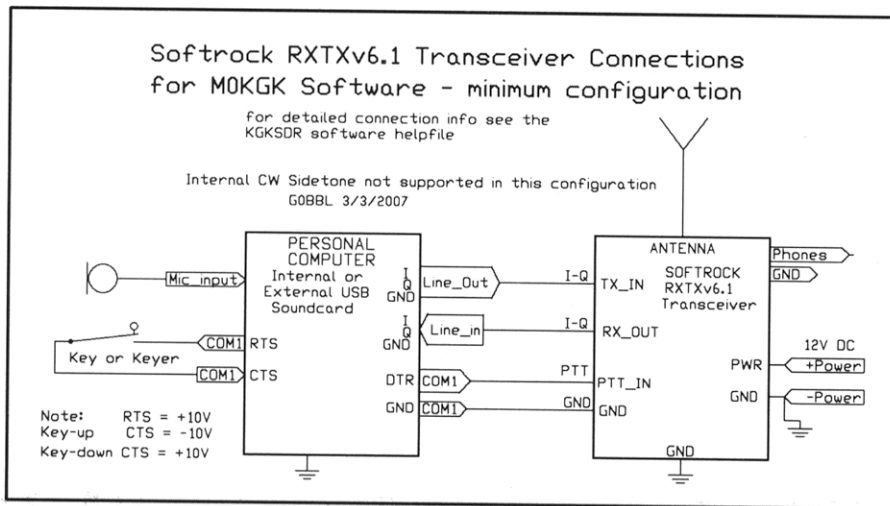

Fig 2 Basic Interconnections
Fig 2 shows the circuit to feed the active aerial via the coaxial cable. L2 prevents HF picked up by the 12 V line to be coupled to the receiver. Because of this danger a metal case should be used for the power feed unit. D1 is a protection against wrong polarity. For low-noise reception below 80 kHz the isolation transformer Tr1 may be necessary for low noise reception, when the cable braid is grounded not only outside the house, as demanded by PA0RDT, but also via a safety ground of the receiver in the shack. In this case an isolated BNC connector has to be used at the receiver output of the case. For VLF reception both
Computer and Software requirements: Whilst the Softrock 40 Receiver may be used on a modest 500 to 700 MHz Pentium Computer running the popular Rocky Software, the RXTX transceiver will need as a minimum a 1 GHz to 2GHz PC on Transmit. Another requirement that the PC Soundcard has Line-in, Line-out as well as a Microphone input socket. Currently two Software packages support the RXTX Transmit capabilities. One is a special version of PowerSDR adapted by Bill Tracy KD5TFD whilst KGKSDR has been developed by Duncan Munroe M0KGGK (ref 4). Fig 2 shows the required connections between the RXTX board and the Personal Computer. A certain amount of computer knowledge will be required when initially setting up the program and the services of an experienced PC user who has an interest in SDR will be essential. However once the RXTX transceiver has been setup, those with somewhat limited PC expertise should be able to operate the RXTX SDR transceiver.
It will've been noted from G3UKV's article that both L1 and L2 in the ZS6BKW differed from those in the G5RV. Whereas L1 was about three half wavelengths long and L2 a half wavelength on 20m in Louis Varney's antenna, in mine they bear no simple relationship either to each other or to a particular amateur band. It turns out from the analysis that the optimum lengths of L1 and L2 are about 1.35 and 0.62 on 20m. In addition, there is a range of values of Z2 that will produce the best match on five HF bands and over the widest possible bandwidths within those bands. The obvious question you will ask is how critical are these particular lengths. Fig 2 shows the limits of L1 and L2 that'll produce a better than 2:1 SWR on five HF bands. It must be remembered that those lengths of L2 in Fig 2 take no account of the velocity factor of the transmission line used in practice. So its actual physical length will be shorter than those shown here by an amount equal to that velocity factor, or about 0.9 for typical slotted lines.
Fig 2 also shows the sensitivity of the multiband match to the value of Z2. It was clear from the analysis that 400 ohms was about optimum, though Z2 = 300 ohms is marginally better for the longest lengths of L1. If values of L1 and L2 close to the extremities within Fig 2 are chosen, the effect is to narrow the bandwidth over which matching will occur in some of the HF bands.
A very effective combination is shown in Fig 2 where L1 = 28.5m; L2 = 13.3m x V.F; and Z2 = 400 ohms. When erected horizontally at 10m above typical urban ground this antenna produced a better than 2:1
Fig.2: The lengths of L1 and L2 (elec.) that will produce a better than 2:1 SWR on five HF bands between 7 and 28 MHz. The hatched areas indicate the value of Z2 required to achieve this optimum matching condition. L1 < 29m requires Z2 of 400 ohms whereas antennas longer than 29m work better with Z2 of 300 ohms.